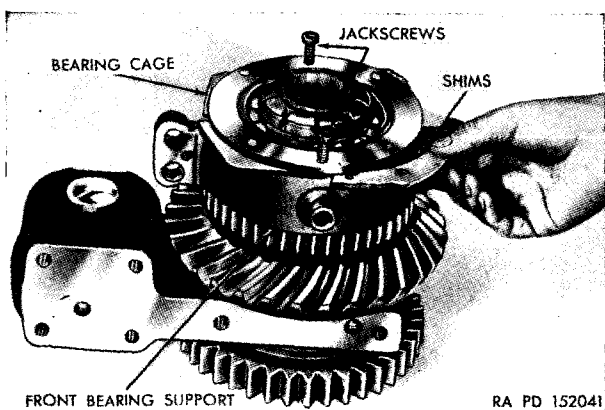

Figure 302. Installing shims.
- (16) Remove the four bolts from the bearing retainer and remove the retainer. Using two of the retainer bolts as jack screws, pull the bearing cage out of the support far enough to permit the installation of the shims between the cage and the front bearing support (fig. 302). Install the bearing retainer and bolts.
- (17) Inspect the converter-output bevel pinion and transfer spur gear assembly. Inspect the roller bearing and ball bearing. Assemble the roller bearing to the bevel and spur gear assembly, the lettered side away from the gear, being careful to drive or press only on the bearing inner race.